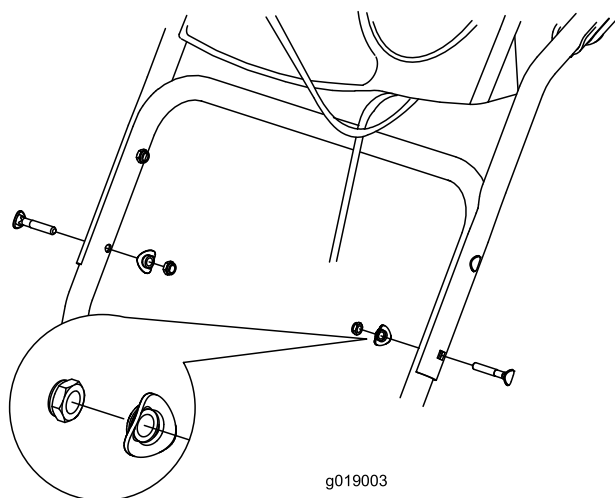

Figure 3
2. Secure the upper handle with 2 handle bolts, 2 curved washers, and 2 locknuts from the loose parts bag (Figure 3).